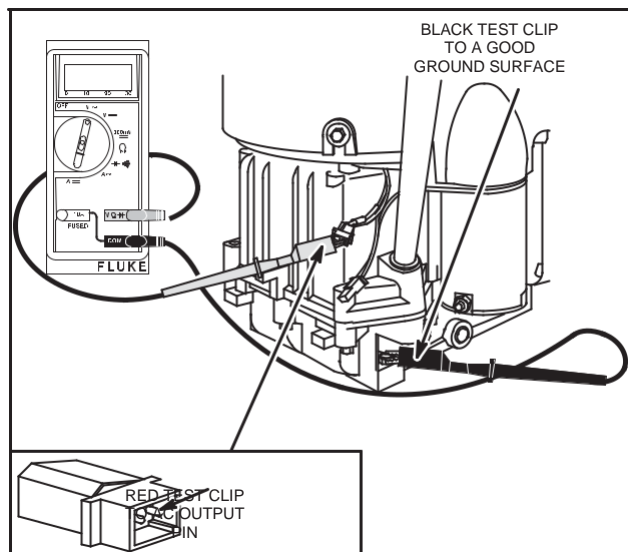

Fig. 15 – Testing AC Output
4. Attach RED test lead clip to AC output terminal, Fig. 15.